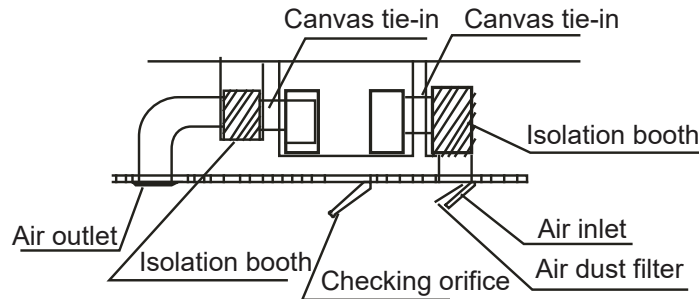

Figure 3.
4. Connect the duct according to the following diagram. See Figure 3 below.